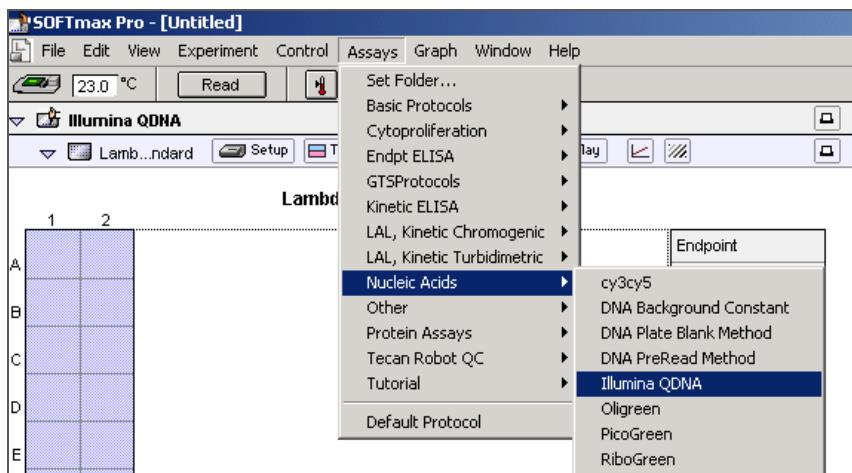

Figure 84 Load the PicoGreen Protocol in SoftMax Pro
4. Select **Assays | Nucleic Acids | Illumina QDNA** (Figure 84).